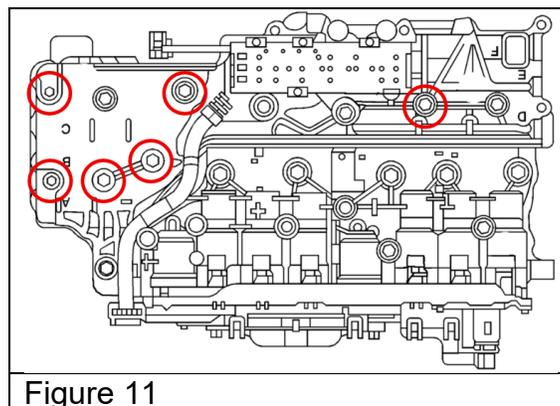

Figure 11
14. Remove the six (6) remaining bolts on the valve body (control solenoid side). See Figure 11.